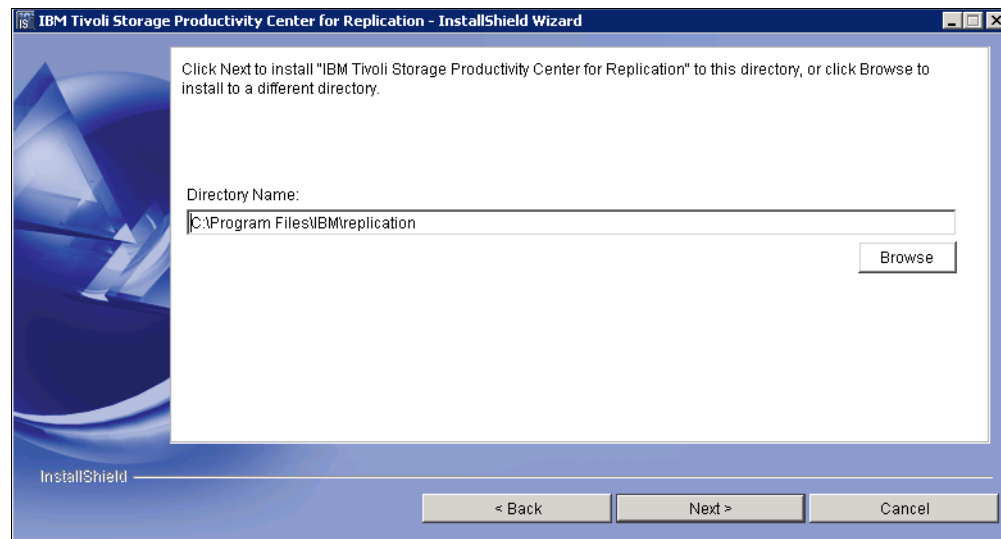

Figure 12-32 Select the installation path
12. Select an installation path and click **Next** (Figure 12-32).